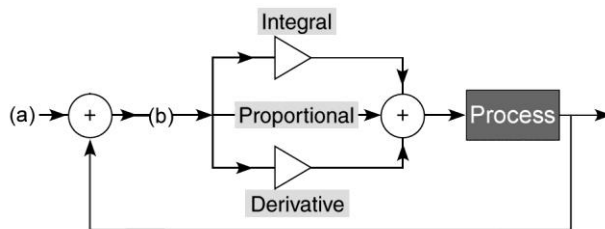

Figure 14-8 PID loop for question 33.
33. For the PID control loop of Figure 14-8, identify the signal (a) ____ and signal (b) _____. 33a._____